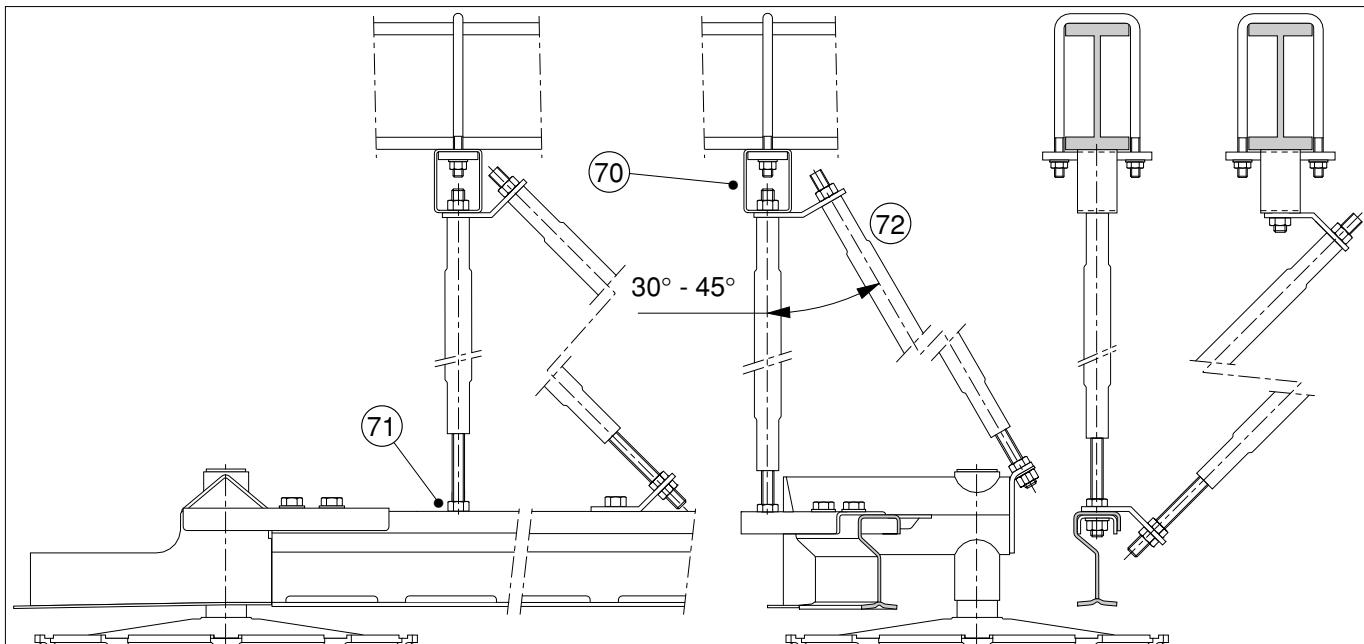

fig.21.2 Clamping braces
5. Install the mounting rods as shown in figure 21.2. Since the mounting rods have to be positioned vertically, member **70** is provided with slots.
See figure 21.2.